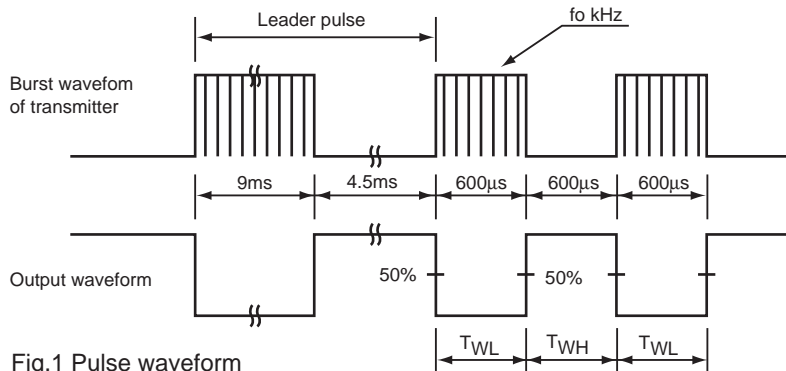
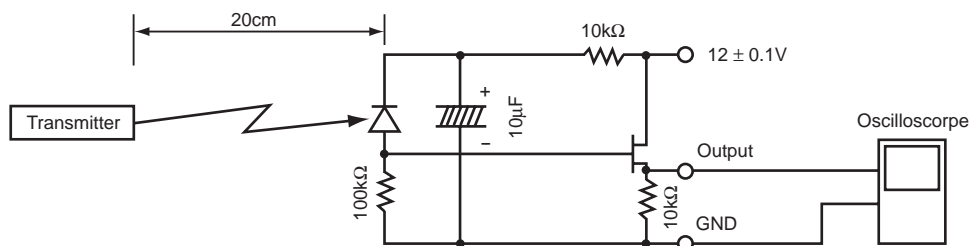

Fig.1 Pulse waveform
Fig.2 The output adjustment of transmitter
*2 As shown in Fig.1, burst wave shall be transmitted by our transmitter in item 7. Detector face illuminance : E_e < 10 lx
The Transmitter shall be defined by adjusting the output of transmitter to make $V_o=400\text{mV}_{p-p}$ according to the burst wave shown in Fig. 1 and measurement condition shown in Fig.2. In addition infrared LED used in the transmitter is set to $\lambda_{\text{peak}}=945\text{nm}$, $\Delta\lambda=45\text{nm}$, and photodiode used in the receiver is set to $32\text{nA} / I_x$ ($V_R=5.0\text{V}$).